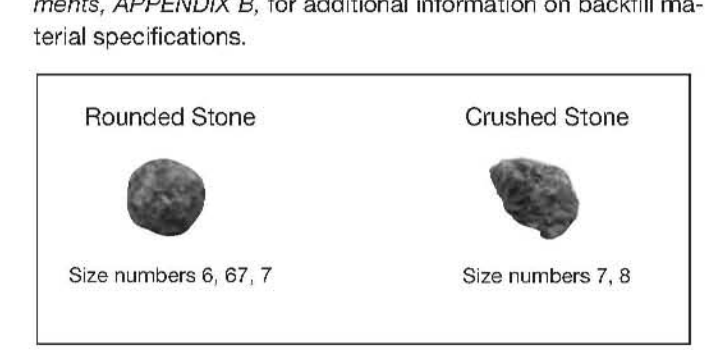

FIGURE 6-1
- 6.2.1.3. When using select rounded stones, they must conform to the specifications of ASTM C 33, size numbers 6, 67 or 7. See FIGURE 6-1 and Xerxes Primary Backfill Requirements, APPENDIX B, for additional information on backfill material specifications.